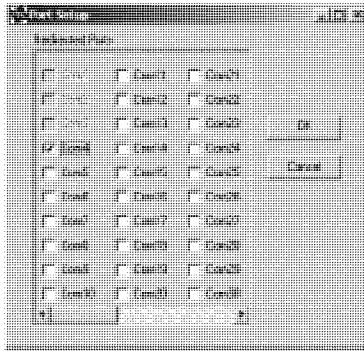

Figure 23: Port Setup Window
6. Click the **Com Setup** button. A Port Setup dialog box appears (Figure 23), with the first logical communications port checked. The physical communication ports on the computer where the Com Port Redirector is installed are grayed-out and unavailable. In Figure 23, these are Com1 through Com3. Your unavailable communication ports may vary.